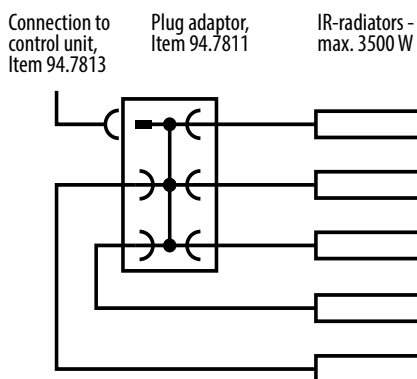
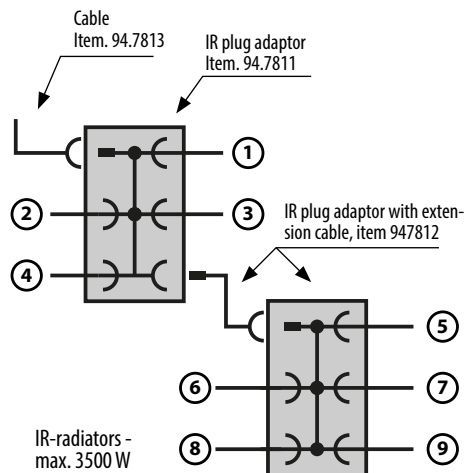

Fig. 2
Fig. 2b
By connection of several IR radiators to one common line an optional plug adaptor (item 94.7812) may be used (fig. 2). Up to 2 such plug adaptors can be connected to each other (fig. 2b).
With two joined plug adaptors (fig. 2b) up to 9 IR radiators may be connected (max. 3500 W).